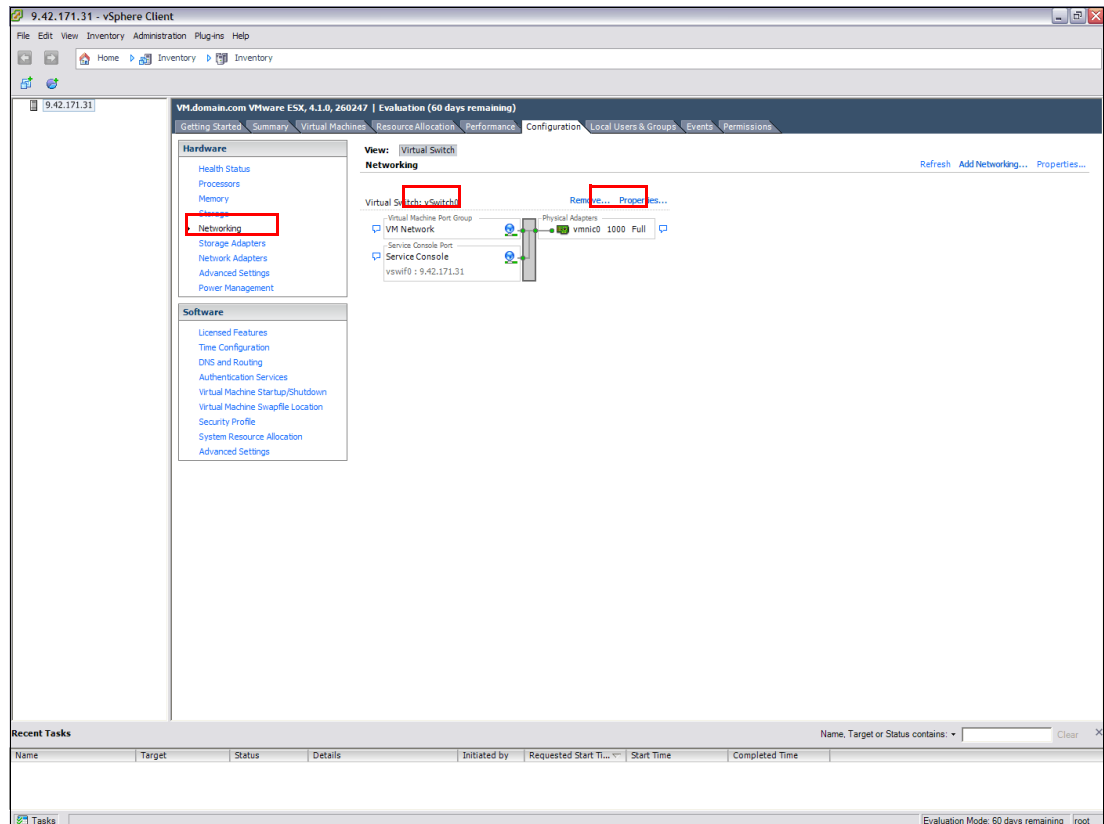

Figure 22-64 ESX Virtual Switch
1. In the Hardware section, select **Networking**. In our example, we have one virtual switch, vSwitch0, as shown in Figure 22-64 on page 696.